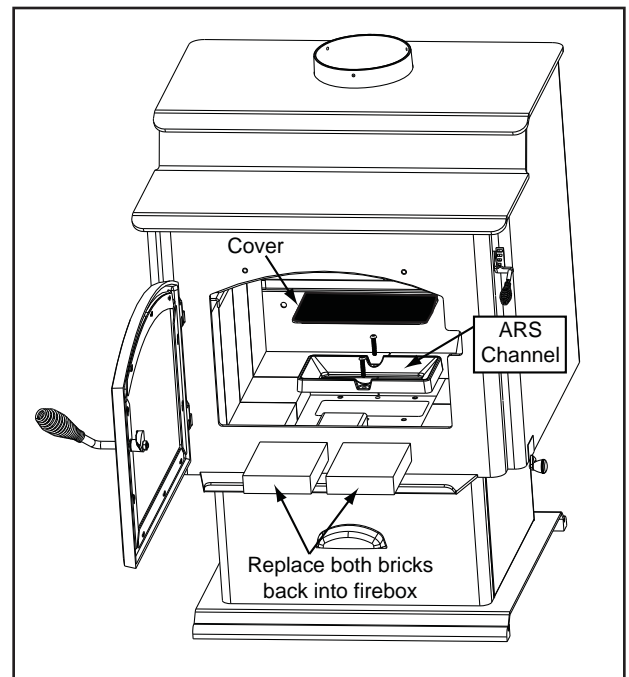

Figure 22.2
1. Re-install the ARS channel that was removed in Step 3 on page one and secure with 2 bolts previously removed. Set the cover into the ARS channel. Replace the 2 front cut bricks. **Figure 22.2.**
1. Follow steps 1 through 3 on **page 22**. See also **Figure 22.2**.